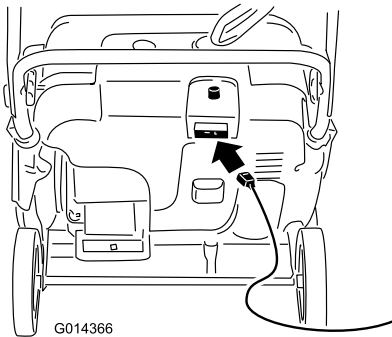
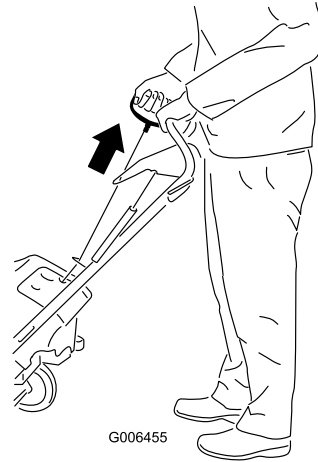

Figure 17
Figure 18
4. Connect an extension cord to a power source and the machine, and push the electric-start button (Figure 17), or pull the recoil-start handle (Figure 18).